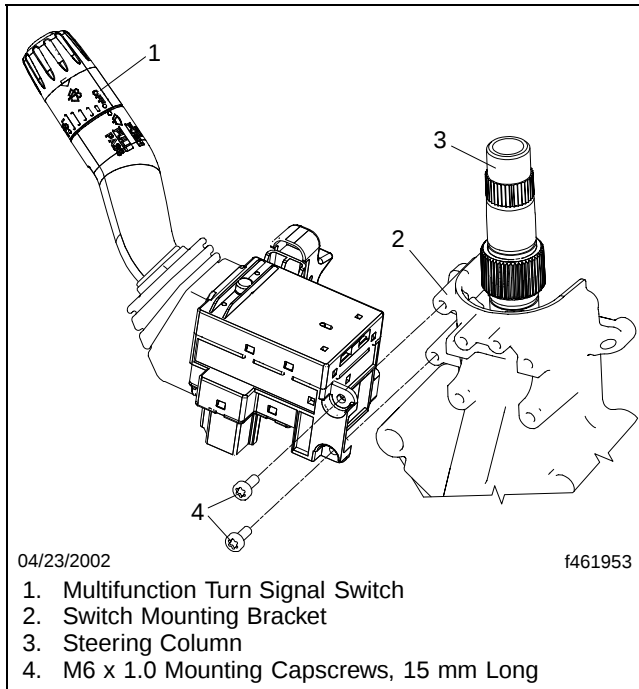

Fig. 2, Remove the Mounting Capscrews
- 3.1 Remove the two panhead mounting capscrews. See **Fig. 2**.
2. Properly orient the multifunction turn signal switch and secure the two panhead mounting capscrews (M6 x 1.0, 15 mm long). Torque 7 lbf·ft (9 N·m). See **Fig. 2**.